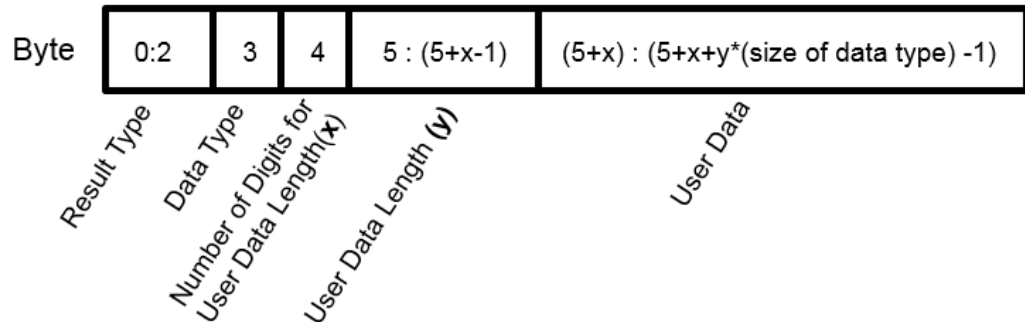

Figure 9-5: User data content format
- Content ('user data content'), see also Figure 9-5. As many bytes as 'LLLL' specified.